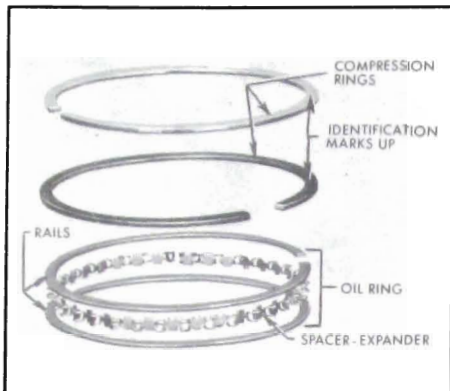

Figure 2-62—V-8 Piston Rings
7. Remove compression rings with expander and remove oil ring by removing the two rails, and spacer-expander which are separate pieces in each piston third groove. See Figures 2-62 and 2-63.
8. Install V-8 piston rings as shown in Figure 2-62. Position expander ends over piston pin where groove is not slotted, and be absolutely certain that the ends do not overlap. Install oil ring rails with gaps "up" on same side of piston as oil spurt hole in connecting rod. Install compression rings in upper two grooves. If a single chrome plated compression ring is used, the chrome ring must be installed in the top groove.
10. Install compression rings in top and center groove. See Figures 2-62 and 2-63.